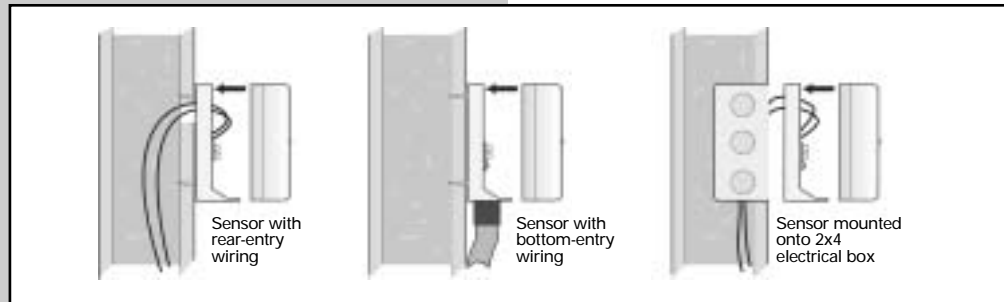

Figure 2-18
2. Mount the outdoor sensor directly onto a wall or a 2x4 electrical box. When the sensor is wall-mounted, the wiring should enter through the back or bottom of the enclosure. Do not mount the sensor with the conduit knockout facing up as rain could enter the enclosure and damage the sensor. (See Figure 2-18.)